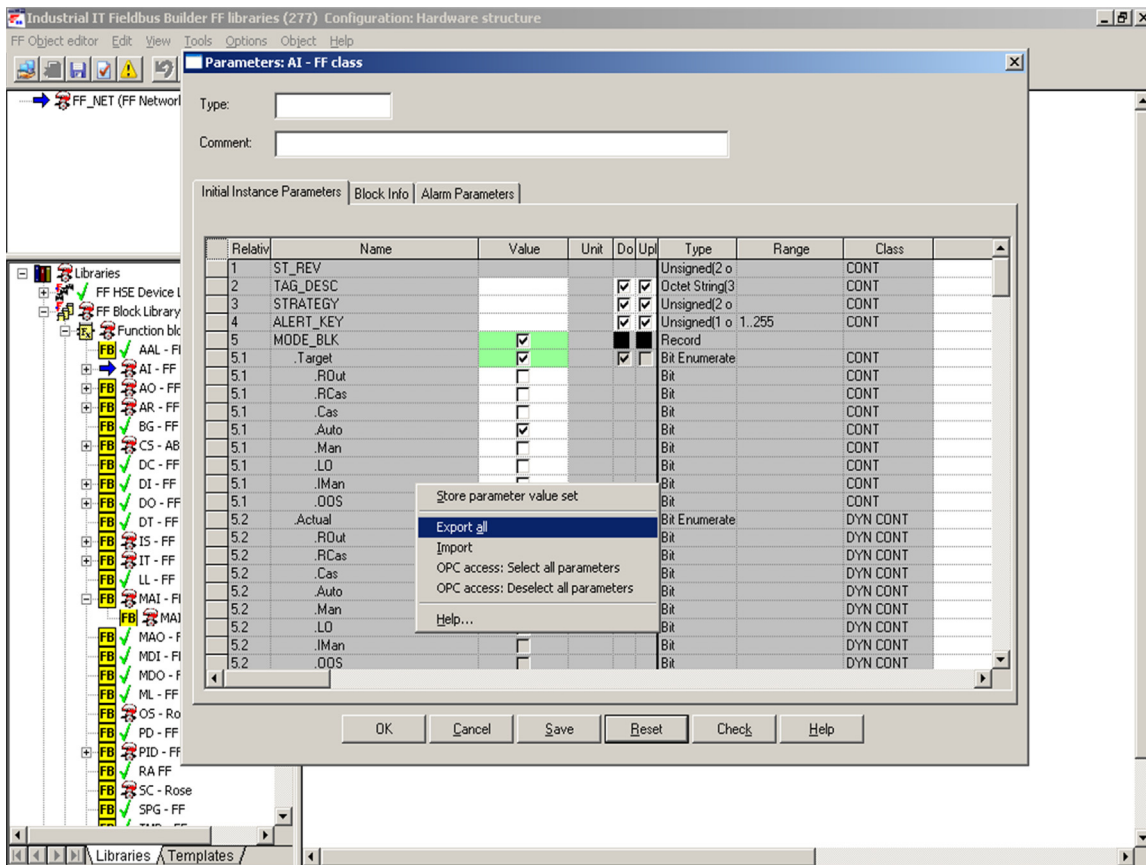

Figure 12. Exporting Locally Stored Parameter Value Sets
8. Right-click and select **Export** from the context menu (Figure 12).